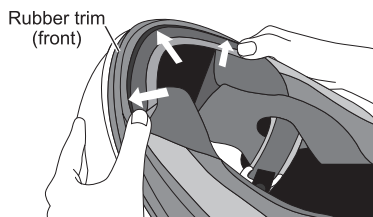

Fig.3
3. As shown in Fig.3, insert the interlining of the Wind Shutter-2 uniformly into the inside of the rubber trim from both sides towards the center.